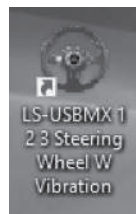

Fig. 5
- Insert Software CD disk into the disk drive of your PC and launch setup.exe to install drivers on your PC. The «LS-USBMX 1 2 3 Steering ...» icon will automatically appear on the desktop (desktop) of the PC (see Fig. 5), which is convenient for future checks and calibration.